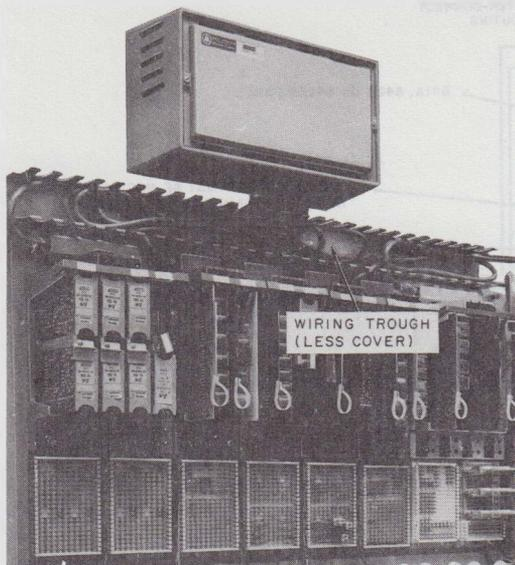

Fig. 10—Installation Using Wiring Troughs for Power Cabling
- (7) Fasten the backboard plate assembly to the wall using appropriate fasteners.
- (8) Hang power unit on backboard and secure it with the machine screw(s) provided.
- (9) Plug single-ended power interconnect cable of modular panel into appropriate connector of power unit. If it will not reach the power unit, use a P12D cord (Table D) to complete the connection.
- (10) Wiring troughs (Fig. 10) may be used to hold excess loops of power cable and improve the appearance of the installation. Mount the troughs horizontally on the wall directly above the modular panels (mounting screws to be obtained locally). Press the loose power cable into the slots, looping it until slack is removed. Put cover on troughs. One trough will fit above two 620A or 620A2 panels or four 641As or 642As. ♦Snap-on covers are provided with the wiring trough to retain the cables and to improve appearance.♦